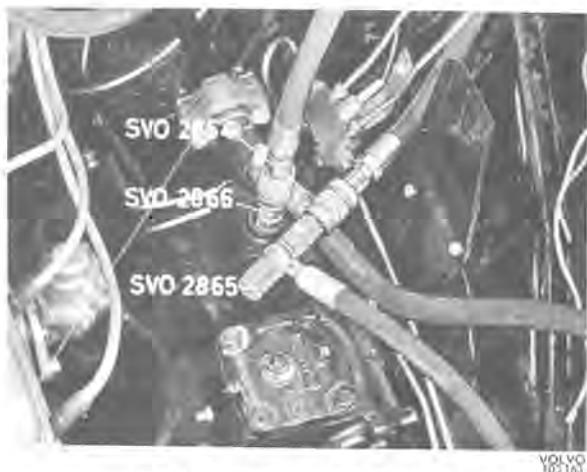

Fig. 6-53. Pressure gauge connected
1. Connect the test instrument SVO 2864 to the delivery line at the steering box, see Fig. 6-53. The inlet hose of the instrument is connected to the banjo nipple with tool SVO 2865 (Fig. 6-53) and the outlet hose to the steering box with tool SVO 2866. Check to make sure that the operating lever of the instrument is in the open position (to the left).